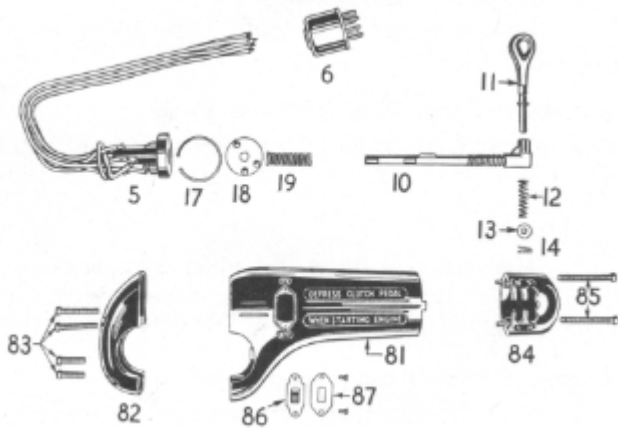

Figure 22
39. Remove two screws (85) (Figure 22) from H plate cap (84) and remove cap.
41. Withdraw washer retainer (14), washer (13), springs (12) and lever (11) from shaft (10).